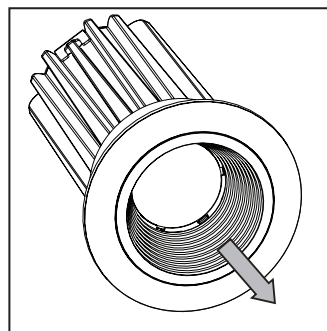

Figure 14
**Step 1.** Pull baffle or reflector out of trim. It may be necessary to insert a small screwdriver between the baffle and the optic holder to pry it free (Fig. 14).